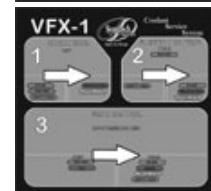

Figure 2
- 5) Turn AIR CONTROL valve (#1) FUNCTION CONTROL valve (#2) and FLUID CONTROL valve to the right, LOWER LEVEL (**YELLOW**). (Fig 2) Vacuum will begin to build on the compound gauge.